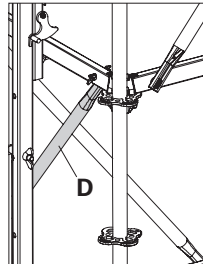

Fig. A2.04
Mount the Diagonal (D) in the connector area of the Trolley with Winch on the inside of the tower. (Fig. A2.04)